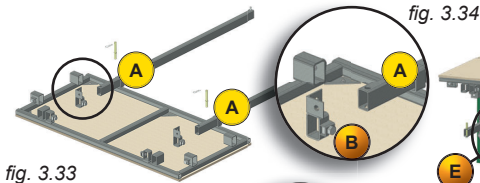

fig. 3.33
- 1- Choose a clean, level area, away from construction traffic. Set the deck extension upside down, with the plywood side on the ground (fig. 3.33).